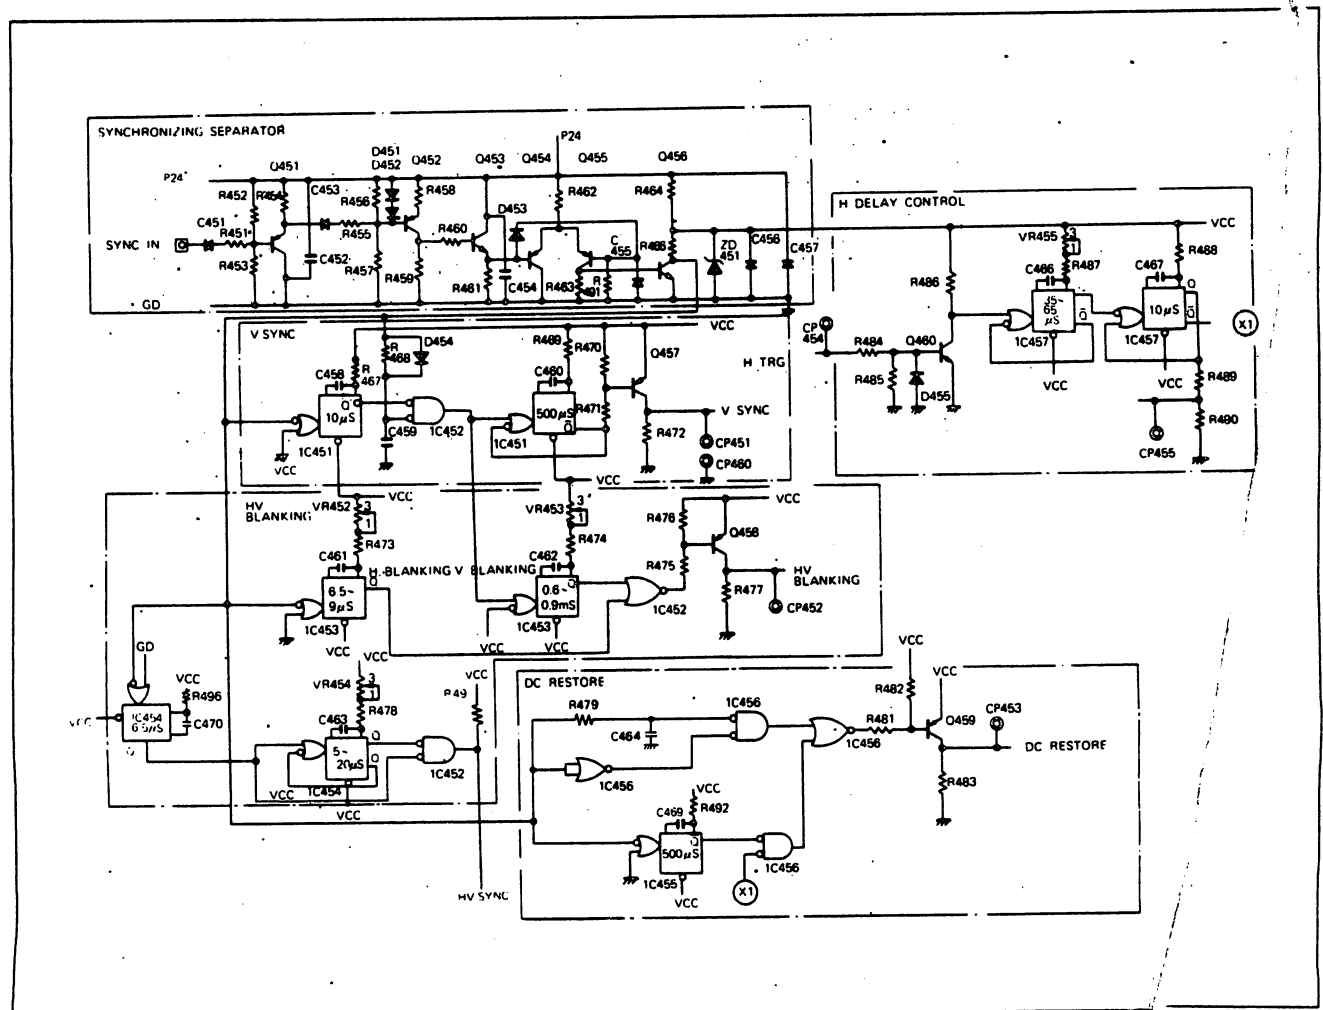

Figure 4-6 Synchronizing Circuit
4.2.2 Synchronizing Circuit (Figure 4-6)